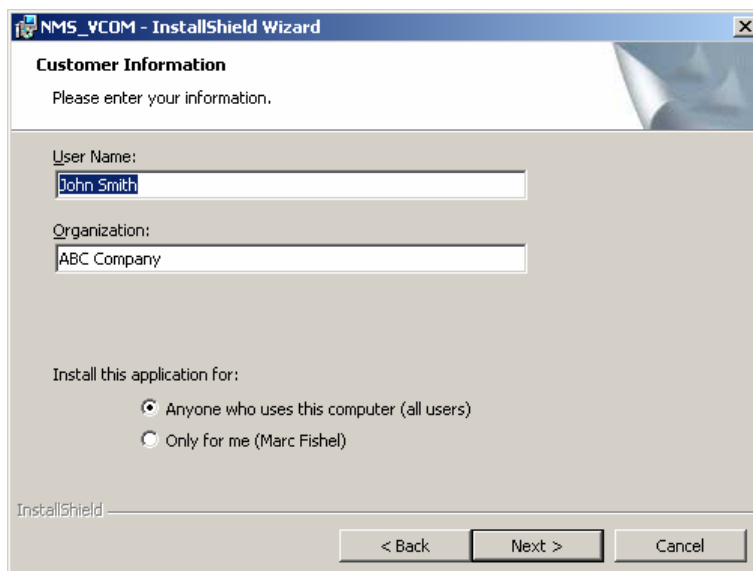

Figure 32. Customer Information Screen
- Click the **Next** button. The Customer Information screen appears, with the user name and organization completed (see Figure 32).